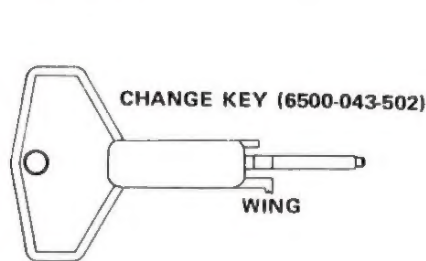

Figure 2.
2. Hold the dial with the last number at the index and insert the changing key (figure 2) in the right hand hole in the back of the lock (figure 3) until the wing is entirely inside the lock and comes to a positive stop. (See figure 4.)